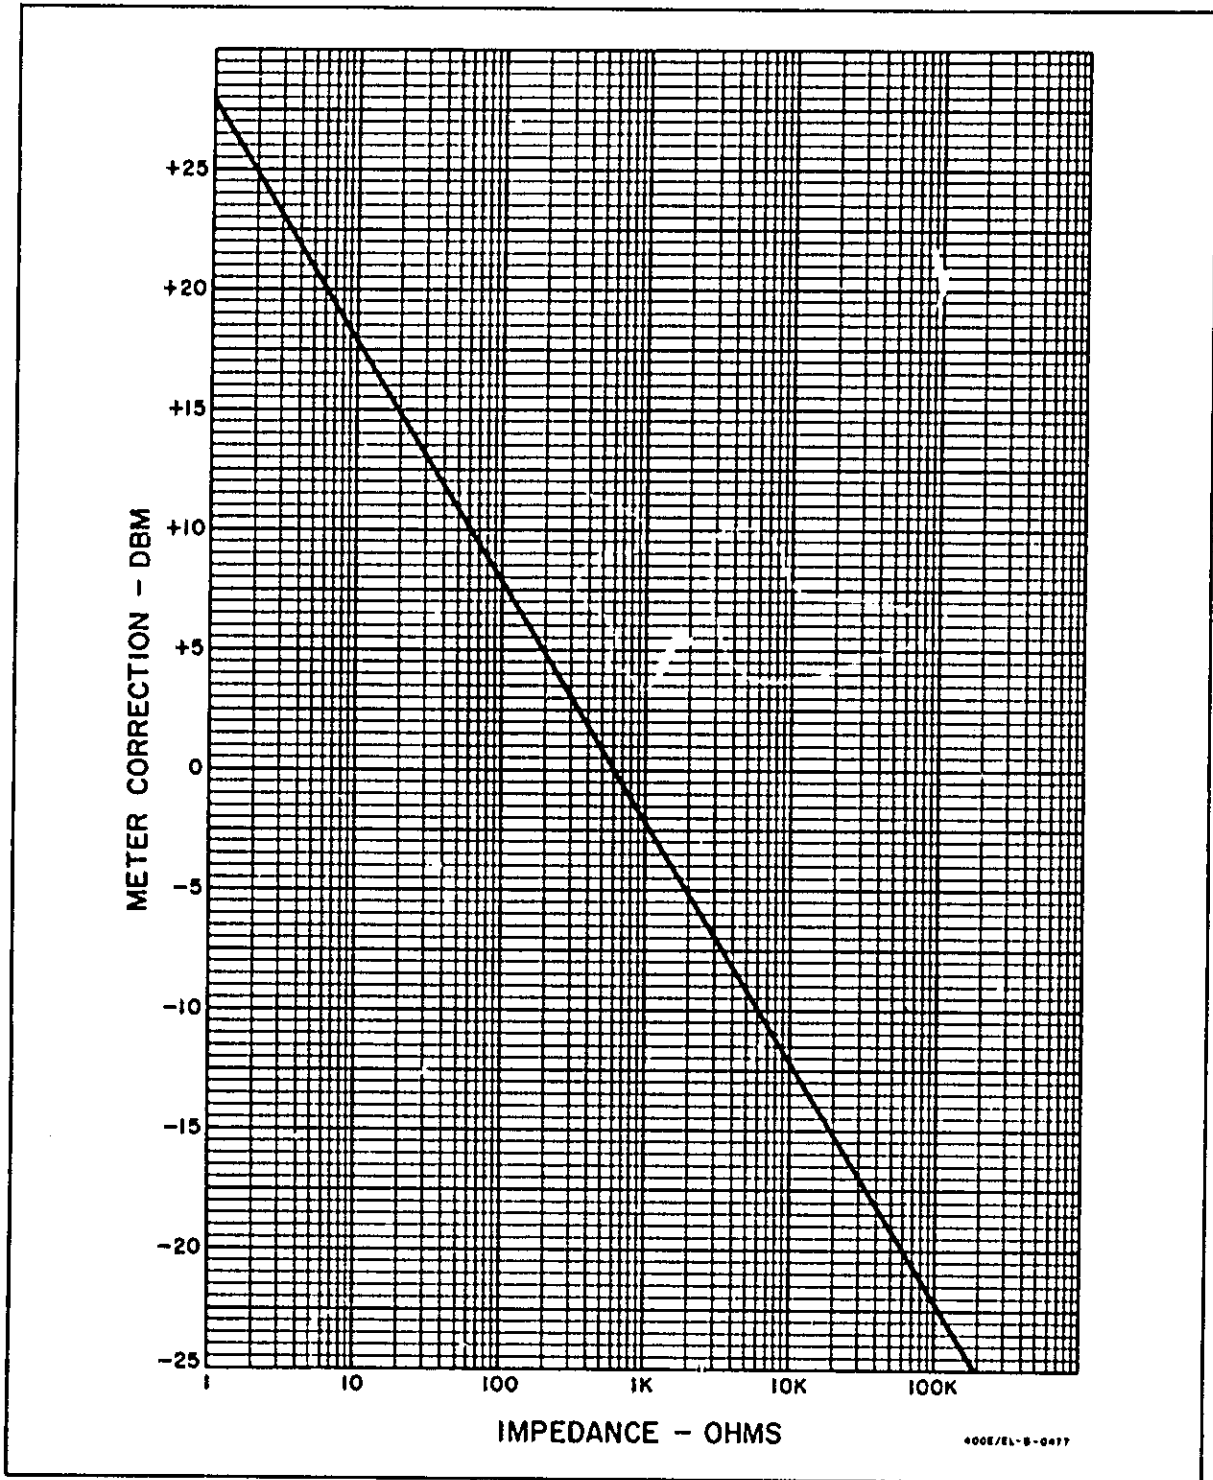

Figure 3-3. Impedance Correction Graph.
d. A reading in dB may be converted to dBm by using the Impedance Correction Graph (Figure 3-3). For example, to convert a 40 dB reading across 100 ohms to dBm, locate the 100 ohm load impedance on the bottom of the graph. Follow the impedance line to the heavy black line and read the meter correction at that point. The correction for 100 ohms is + 7.5 dBm; the corrected reading is 40 dB + 7.5 dBm = + 47.5 dBm.